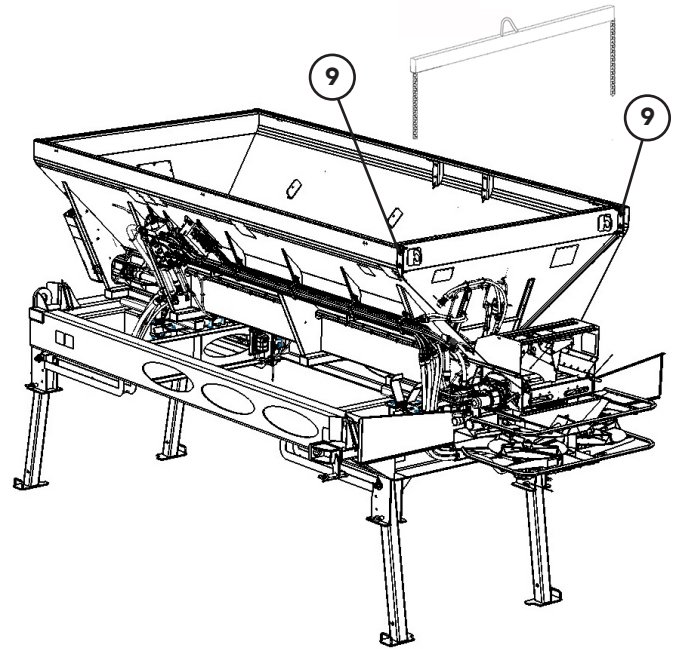

Figure 6 - Endgate Hardware
6. Figure 6 - Support endgate by attaching a hoist to the lift hooks. Remove hardware (9) from both sides of the endgate and carefully remove from the spreader.